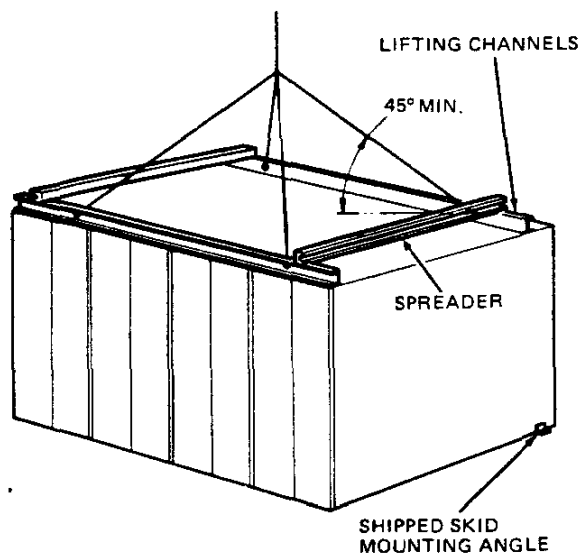

Figure 2. Lifting 34.5 kV Indoor Switchgear
34.5 kV Indoor Switchgear (See Fig. 2)